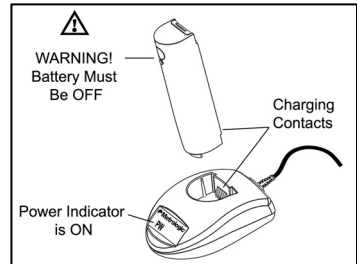

Figure 5
4. Insert the battery pack into the charger as shown in Figure 5.